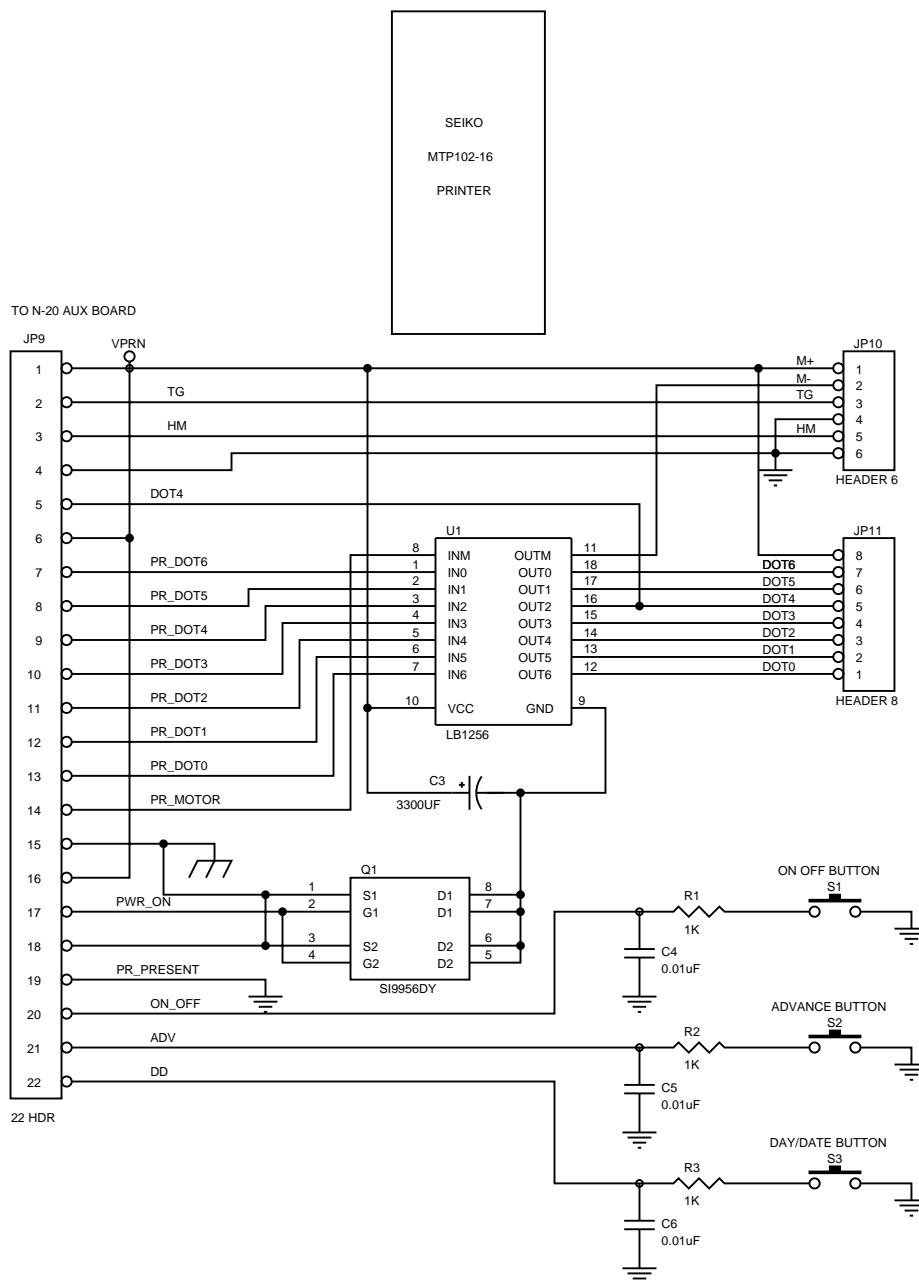

Figure 9-32: Printer Flex Circuit
- **Printer flex circuit** (N-20P only)—The printer flex circuit is added when the printer is present. The printer generates a timing signal that is read by the CPU and sent to the flex circuit. This circuit signals the CPU that a printer is present by connecting one CPU input to ground. Power and power control signals from the auxiliary PCB generate an output load for a resistor array; heat from this process produces a dot matrix pattern on thermal paper. The printer flex circuit is illustrated in Figure 9-32.
The printer flex circuit is illustrated in Figure 9-32.